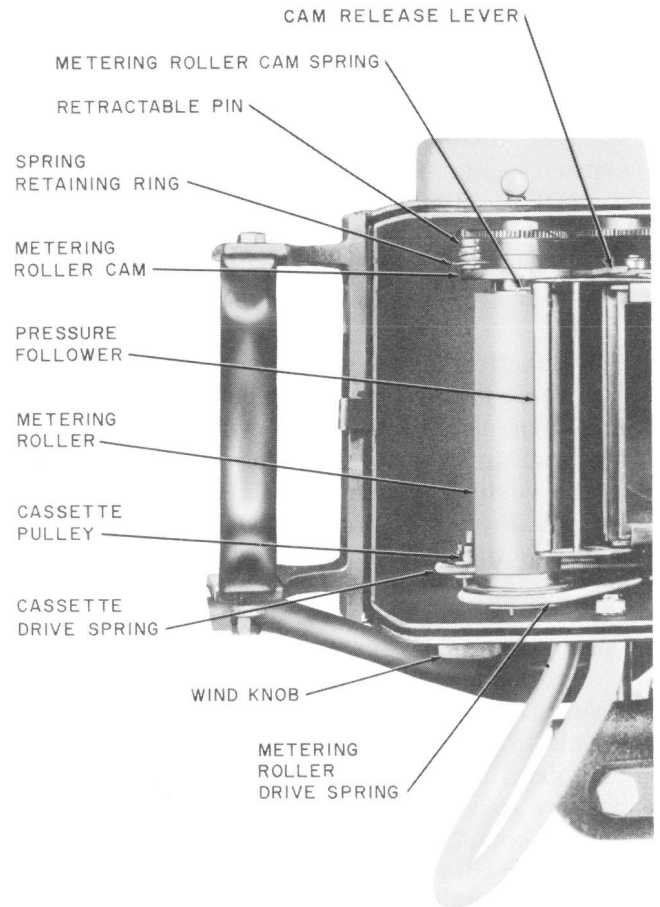

Fig. 15 — KS-14593 L2 Message Register Camera — Partial View Showing Metering Roller and Associated Parts
3.40 Cassette and Metering Roller Drive Springs: Fig. 15 —
3.41 Metering Roller Cam Spring: Fig. 15 —
3.43 Pressure Follower: Fig. 15 — Remove the camera cover. Remove the pressure follower mounting screws using the 418A wrench. Mount the new pressure follower, making sure that the shoulder on each mounting screw engages the hole in the pressure follower. Securely tighten the mounting screws.
3.44 Wind Knob: Fig. 15 — Loosen the wind knob setscrew using the R-2959 wrench
3.46 Cassette Pulley: Fig. 15 — Remove the camera cover. Remove the drive spring from the pulley as covered in 3.40. Loosen the wind knob setscrew using the R-2959 wrench and remove the wind knob. Remove the pulley retaining ring from the outside of the camera using the R-2975 adjustable snap ring pliers. Remove the pulley. Apply a thin film of KS-7471 grease to the bearing surface of the shaft of the new pulley using the R-2966 brush. Mount the new pulley using a new retaining ring. Remount the wind knob and securely tighten its setscrew against the flat on the pulley shaft. Remount the drive spring as covered in 3.40. Remount the camera cover.